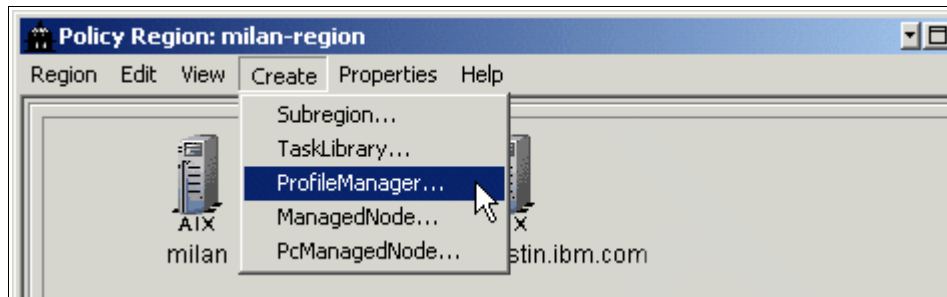

Figure 8-16 Creating a profile manager
3. Select **Create** and then **ProfileManager** as shown in Figure 8-16.